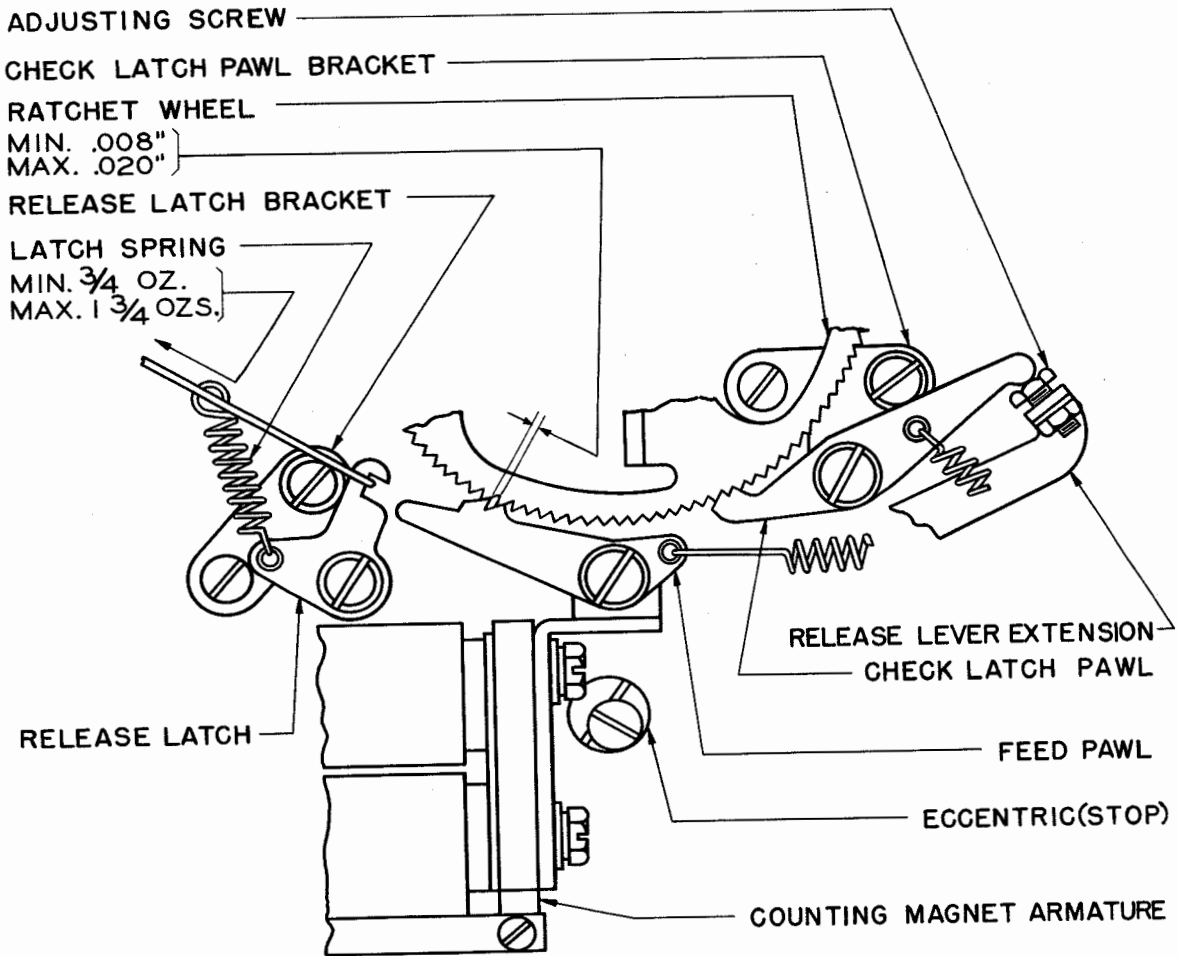

Figure 49
6.05 Counter Feed Pawl should overtravel the ratchet-wheel teeth minimum 0.008 inch, maximum 0.020 inch as shown in Figure 49 when the counting magnet armature is in its operated position (against magnet cores).
6.12 Release-latch Spring should have a tension of minimum 3/4 ounce, maximum 1-3/4 ounces when the latch starts to move from its unlatched position. See Figure 49.